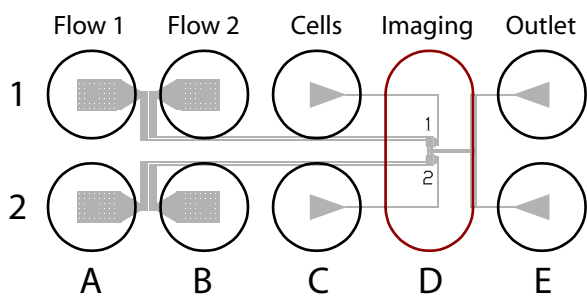

Figure 1 Well Layout
1. The B2 microfluidic unit consists of 2 independent flow units as depicted in Figure 1. Each unit has 2 inlets, a cell loading, an imaging area, and an outlet. The plate is shipped pre-primed with sterile dl water which can be replaced with a buffer of choice prior to experiment.